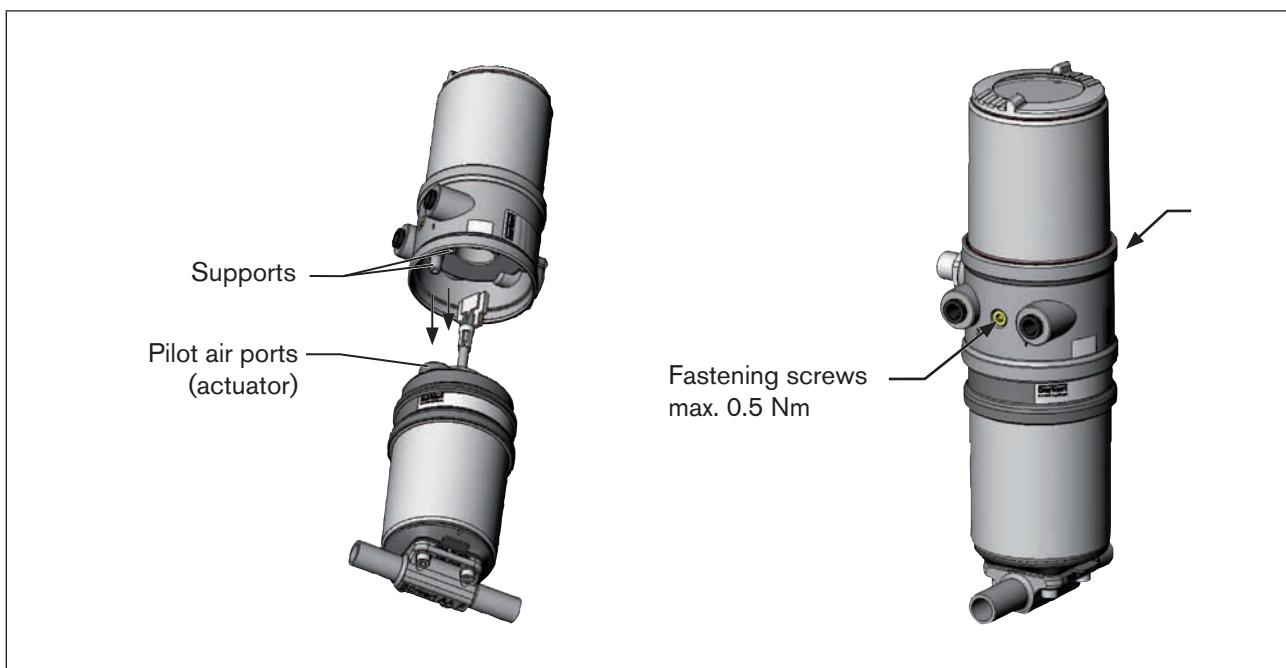

Figure 8: Installation of control head
2. the supports of the control head can be inserted into the pilot air ports of the actuator (see also "Figure 8: Installation of control head").